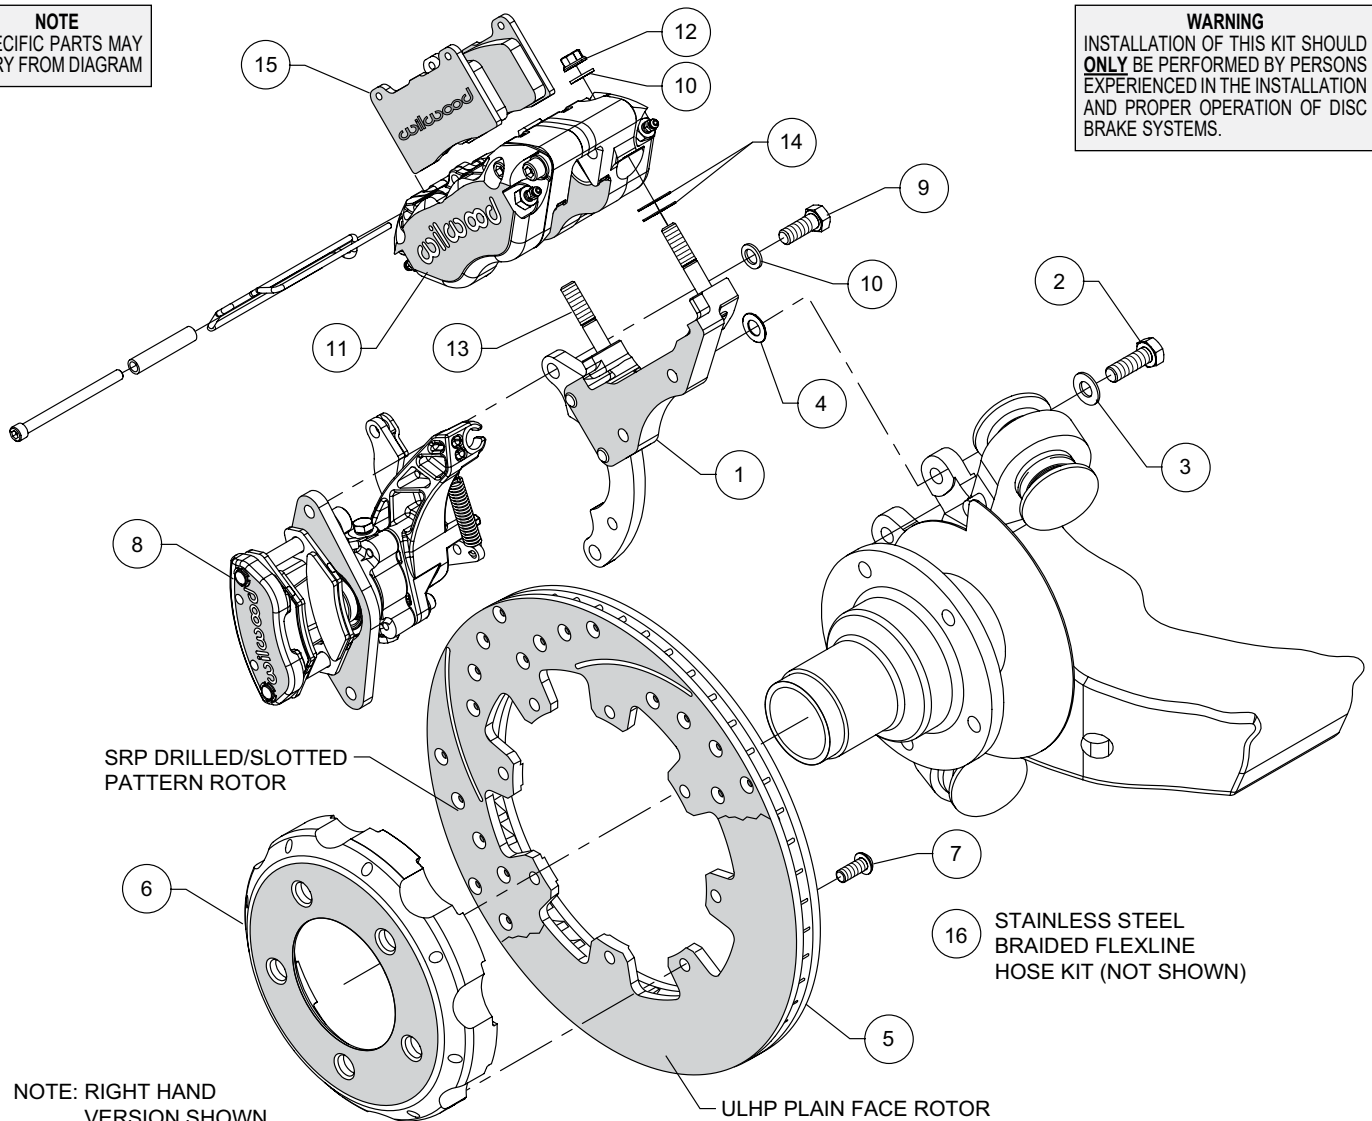

Figure 1. Typical Installation Configuration
NOTE: Numbers in parenthesis refer to the parts list and Figure 1 on the preceding pages.
- The caliper mount bracket (1) should initially be installed with clean, dry threads on the mounting bolts. Orient the bracket as shown in Figure 1, and Photo 1, and install using bolts (2) and washers (3). Initially place one .030" thick shim (4) on each bolt between the bracket and upright, Figure 1. Temporarily tighten the mounting bolts. **NOTE:** The bracket must fit squarely against the mount bosses on the upright. Inspect for interference from casting irregularities, machining ridges, burrs, etc. Later, after the caliper alignment has been checked, the mount bolts will be secured using red *Loctite*® 271.
- Orient the rotor (5) and the hat (6) as shown in Figure 1 and Photo 2. Attach rotor to hat using bolts (7). Using an alternating sequence, apply red *Loctite*® 271 to the threads, and torque to 25 ft-lbs.
- Initially place two .035" thick shims (14) on each stud (13) as shown in Figure 1 and Photo 5. Mount the DynaPro caliper (11) onto the bracket (1) using lock nuts (12) and washers (10), Figure 1. Temporarily tighten the lock nuts and view the rotor through the top opening of the caliper. The rotor should be centered in the caliper, Photo 6. If not, adjust by adding or subtracting shims (4) between the bracket and the mounting bosses. Always use the same amount of shims on each of the two mounting bolts. Once the caliper alignment is correct, remove the bracket mounting bolts (2) one at a time, apply red *Loctite*® 271 to the threads, and torque to 35 ft-lb.
- Insert the brake pads (15) into the caliper with the friction material facing the rotor (5), as shown in Figure 1 and Photo 7. Check that the top of the brake pad is flush with the outside diameter of the rotor, Photo 8. If not, adjust by adding or subtracting shims (14) between the caliper and the bracket. After the caliper pad height is set, torque the caliper lock nuts (12) to 30 ft-lb. Secure the pads in place using the pad clip retainer as well as the center bridge pad retainer tube, bolt, and locknut, Photo 9. The locknut should be snug without play in the bolt or tube. Be cautious not to over tighten.
- Orient the parking brake caliper (8) as shown in Figure 1 and Photo 10, and mount onto the caliper mounting bracket (1) using bolts (9) and washers (10), Figure 1. Apply red *Loctite*® 271 to bolt threads, and torque to 35 ft-lb.